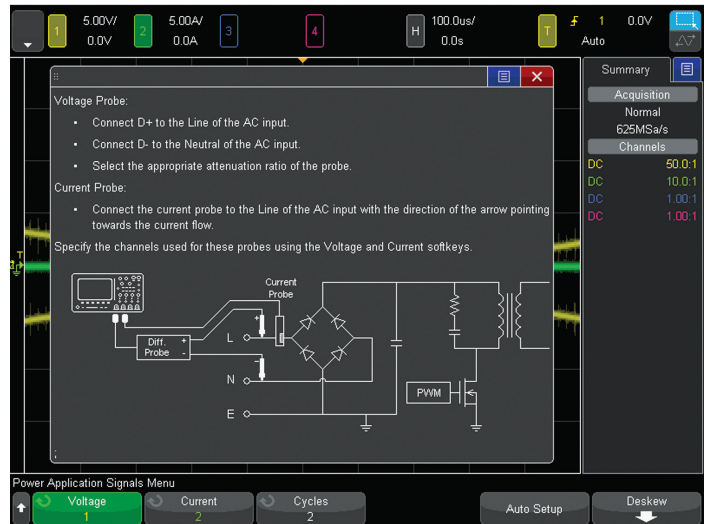

Figure 8. Connections diagram for the power quality measurement.
7. Connect the N2790A high-voltage differential active probe from the scope's channel-1 input to Line (red lead) and Neutral (back lead) as illustrated in the connections diagram shown in Figure 8. If using Keysight's SMPS training kit, connect the probe to TP2 (red lead) and TP1 (black lead).